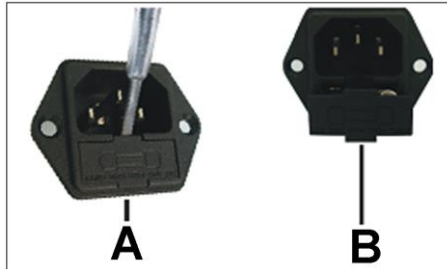

Fig. 11
- 1 Insert the flat tip of a screwdriver into the recess in the fuse compartment below the power socket and use it as a lever (Fig.11 - Ref. A).
- 2 Pull out the fuse compartment (Fig.11 - Ref. B).
- 4 Put the compartment back into place (Fig.11 - Ref. B).